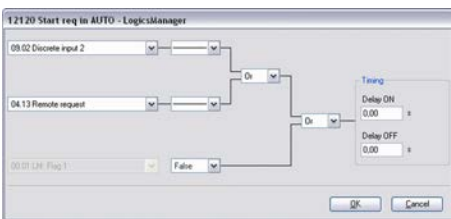

Fig. 162: LogicsManager function "Start req in AUTO"
2. ➤ Configure the LogicsManager function "Start req in AUTO" as shown in ( Fig. 162) to start the generator in Automatic operating mode if discrete input [DI 02] ("09.02 Discrete input 2") is energized or a remote start request ("04.13 Remote request" = start via interface) is issued.